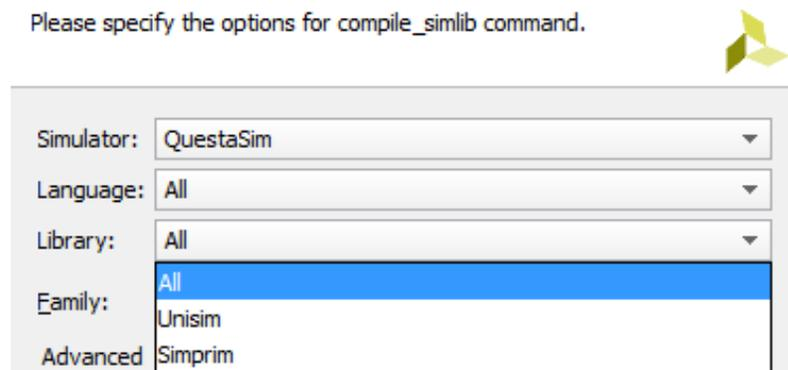

Figure 8-5: Simulation Libraries
- Library:** Specifies the simulation library to compile. By default, the `compile_simlib` command compiles all simulation libraries. See Figure 8-5.